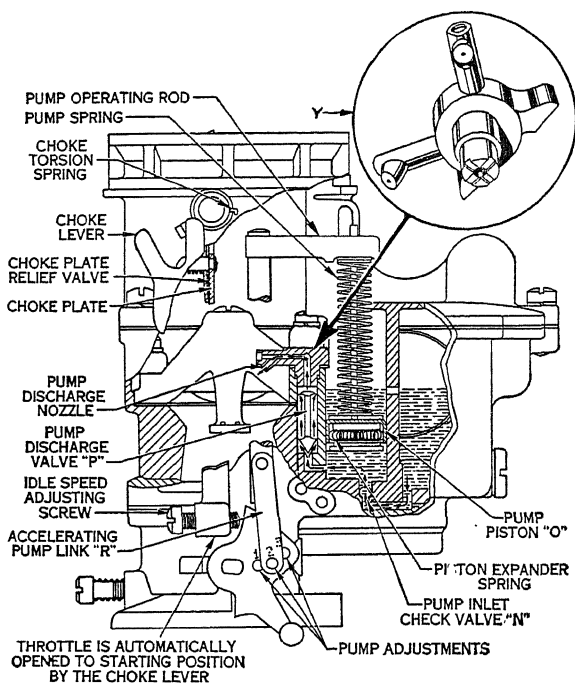

Fig. 4. Ford-Mercury-Lincoln-Zephyr Accelerating Fuel Supply
should make a careful study of the four figures reproduced, in order to learn the location of the various jets and passages. The carburetor used is of the dual type with separate sets of venturi, idle tubes, nozzle bars, main metering system, idle system, and throttle plate for each barrel. There is but one accelerating pump; however, the flow of fuel from the pump is divided by the pump discharge nozzle, shown in the inset *Y*, Fig. 4. There is but one fuel chamber and one float or gasoline chamber. There is one power valve which takes the fuel from the fuel chamber through one passage and divides the fuel evenly for each side of the carburetor. Operation for the barrels is identical.
**The Accelerating Pump.** When the throttle is closed, fuel is drawn into the pump chamber through the pump inlet check valve, *N*, Fig. 4. Since the throttle is connected to the accelerating pump piston *O*, the opening of the throttle causes the piston to move down,
closing the pump inlet check valve and overcoming the weight of the pump discharge valve needle. When this happens, the accelerating fuel forced out then passes around the pump discharge valve *P* and out the pump discharge nozzle, illustrated in the inset *Y*, Fig. 4. In order to provide for a long discharge of the accelerating fuel, when accelerating rapidly, spring loading is provided in the piston stem and the pump operating rod. A pump link rod *R*, Fig. 4, is provided to allow for the three positions marked 1, 2, and 3. Of